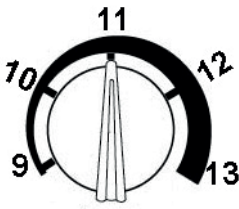

FIG. 1B
- Striking the arc, the observing window darkens immediately. At this moment, according to the technical requirement, you can adjust the darkness knob (Fig. 1B) in the direction as shown by the arrow to select the optimum darkness. Refer to the "Recommended Shade Numbers" table.